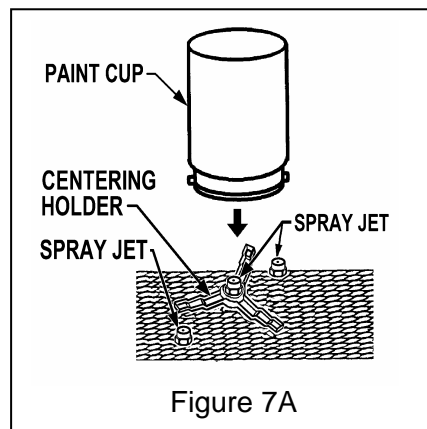

Figure 7A
5. The Paint Cup of a Gravity or Siphon type Spray Gun may be cleaned by placing it upside down over the Spray Jets. See Figure 7A.
1. Place Paint Cups upside down over the low spray jets protruding through the screen. See Figure 7A.